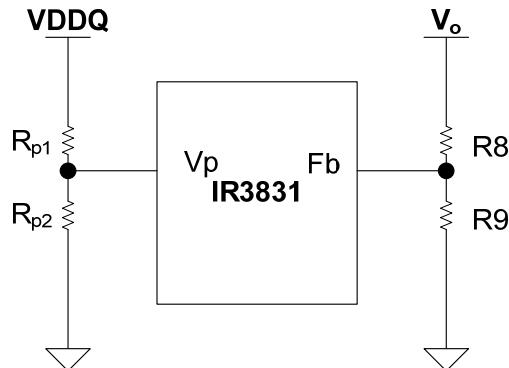

Fig. 10. Typical application of the IR3831 for programming the output voltage
When an external resistor divider is connected to the output as shown in figure 10. Equation (5) can be rewritten as: